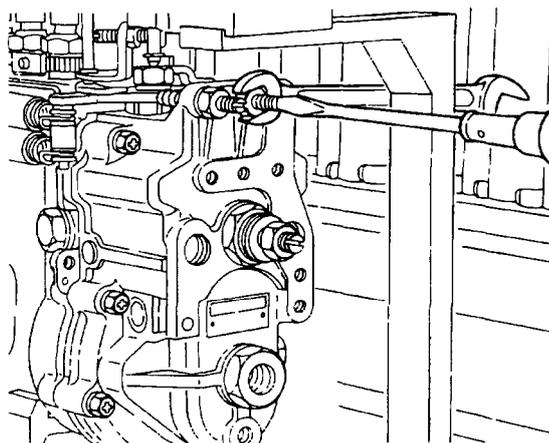

Figure 117 Idle Setting Bolt Adjustment
- m. Set the pump speed at 80 to 100 and adjust the idle setting bolt (Figure 117) so that the control rack is at 11.5 mm.